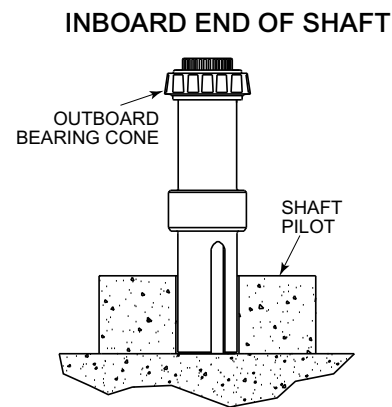

Figure 6.3.6.1 Placing Outboard Bearing Cone onto Shaft
4. Place the outboard bearing cone squarely on the inboard end of the shaft with the smaller diameter of the bearing facing inboard. Reference **Figure 6.3.6.1**.